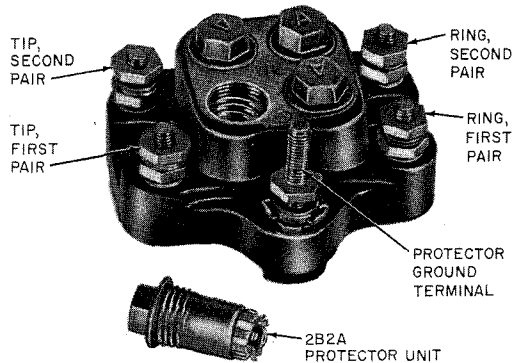

Fig. 7—128A1A Protector
3.06 The **128A1A-2 protector** (Fig. 7 and 27) provides protection for two pairs of wires. It consists of a nonconductive base containing five